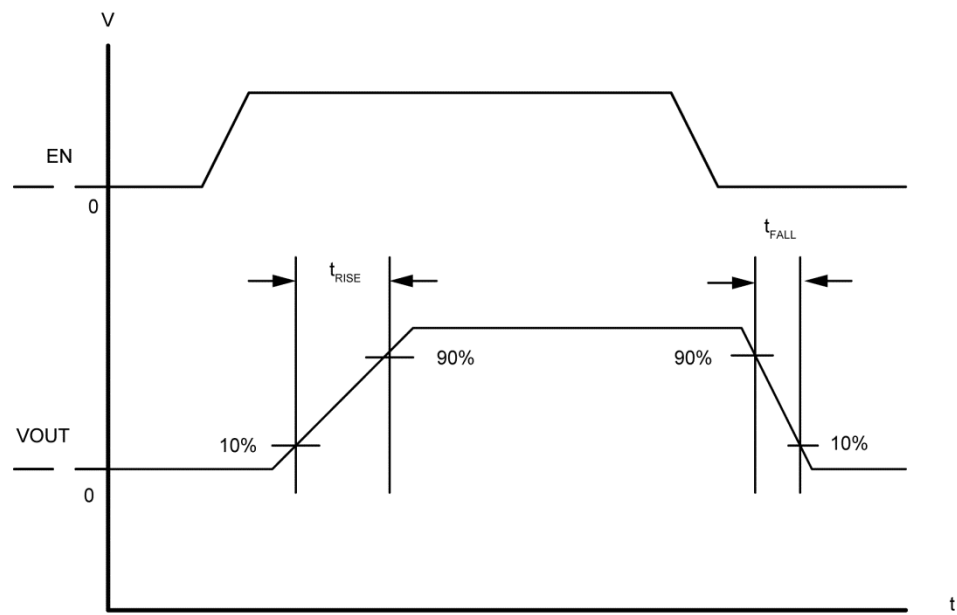

Figure 1. Output Rise/Fall Time
8. See "Timing Diagrams" (Figures 1 through 4).